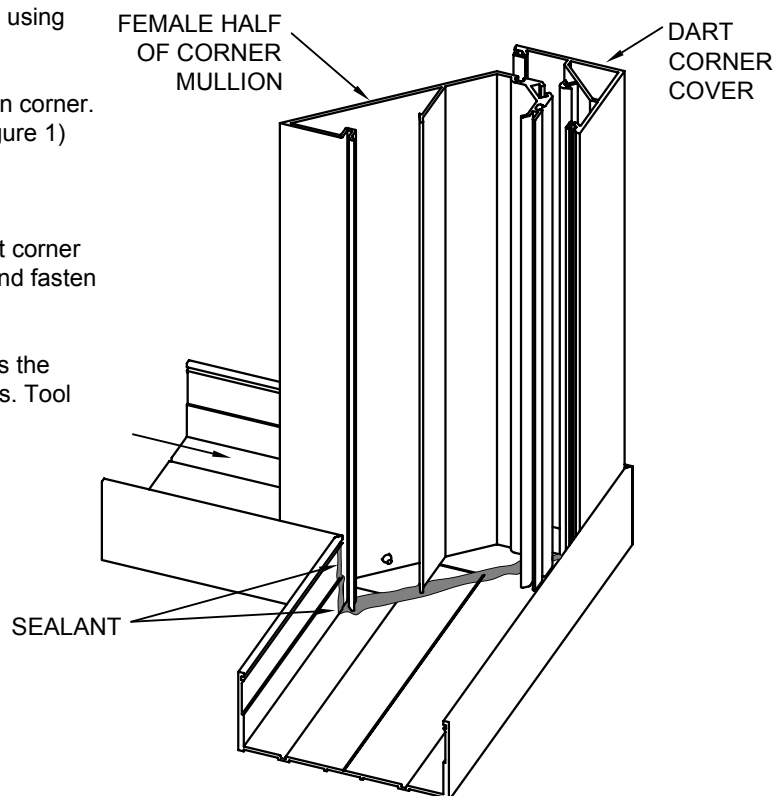

FIGURE 1
- STEP B:** Install into head and sill receptors and position in corner. Do not damage the sill receptor splice joint. (Figure 1)